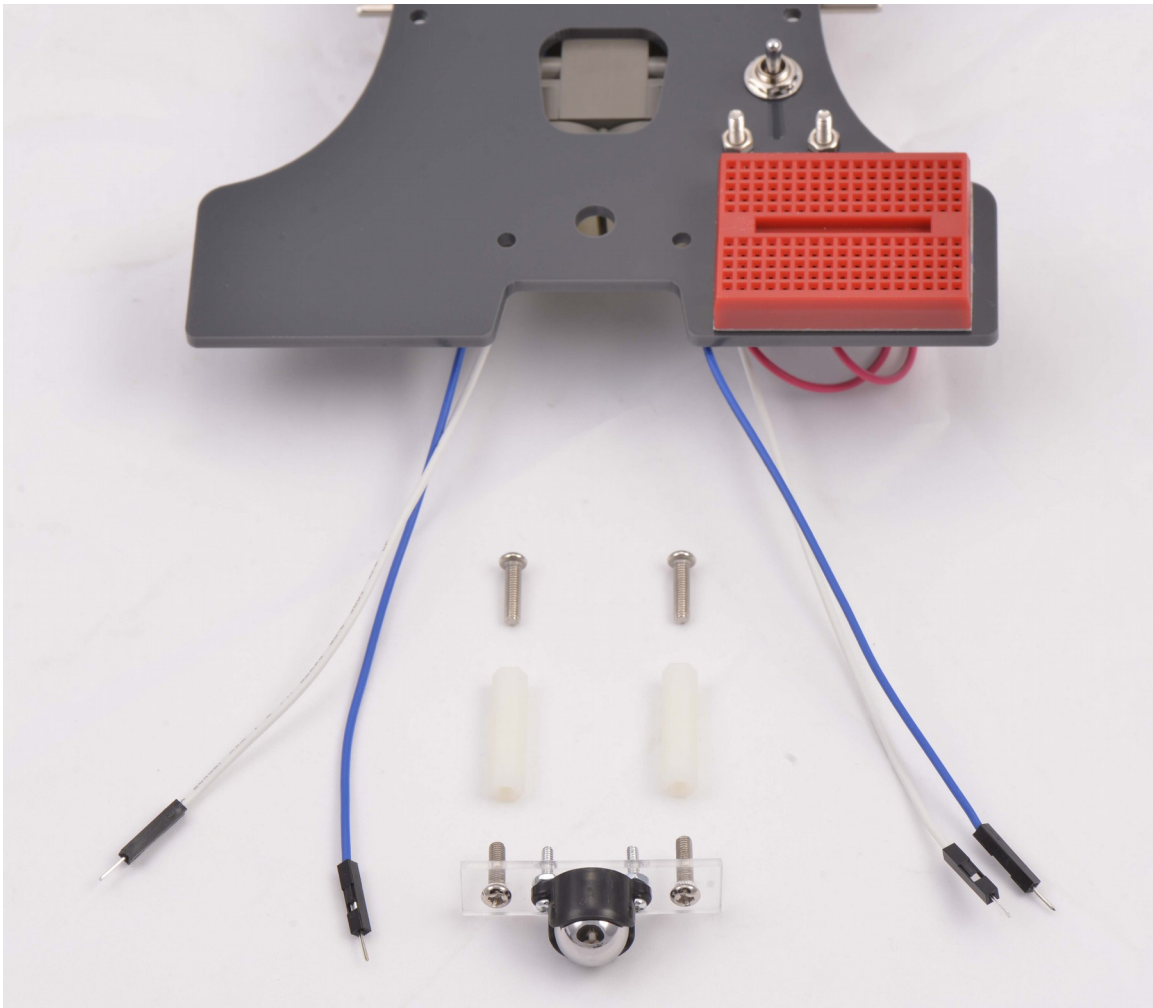

Figure 2.10
Locate the two (2) 3/4 inch nylon spacers (shorter of the two sizes provided) and four (4) 4-40 screws and assemble them as shown in figure 2.10.